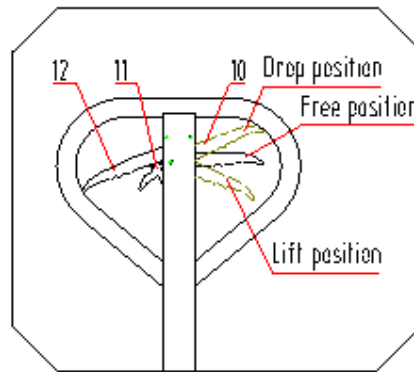

Fig.5
- 4.1 After the truck is assembled, try to rock the hand grip and operate different positions of control handle knob 10 to examine the lifting, free position and dropping and check that whether the different positions are normal or not. See fig 5.
- 5.3 See fig 5, when hand knob 10 is placed on the lift position, the truck will be in a state of lift. At this time, if you rock the hand grip, the truck will be lifted.
- 5.4 See fig 5, when hand knob 10 is placed on the free position, the truck will travel. At this time, if you rock the hand grip, the truck will neither lift nor drop. Then, you can use the truck to move the cargo.
- 5.5 See fig 5, when the hand knob 10 is placed on the drop position, truck forks will drop. At this time, the truck forks will drop automatically.
- 5.6 See fig 5, when the hand knob 12 is placed below, the truck will be in a state of free walking.
- 5.7 See fig 5, when the hand knob 12 is placed above, the truck will be in a state of brake.
5.8 See fig 5, hand knob 11 is used for release brake.